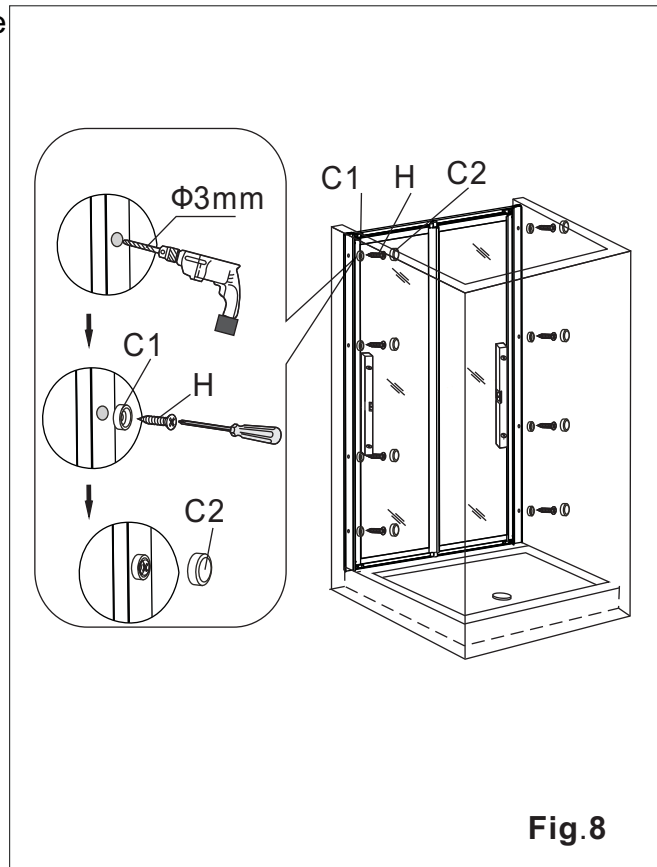

Fig.8
8c. Secure the profiles using screws ST4x12mm (H) and screw cap washers (C1). Cover with screw caps (C2) as per **Fig.8**.